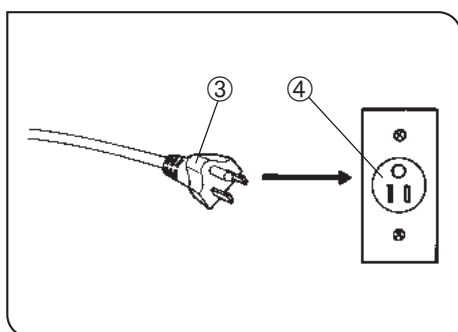

Fig. 55
2. Plug the power cord plug ③ into the wall outlet ④ (Fig. 55).